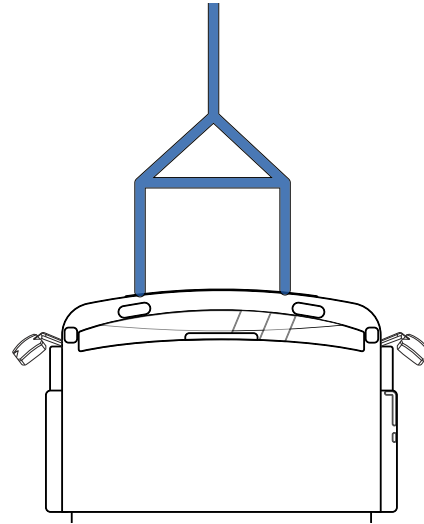

Figure 15 - Spreader bar
- Use a spreader bar to distribute the load between the tow hooks **(Figure 15)**.